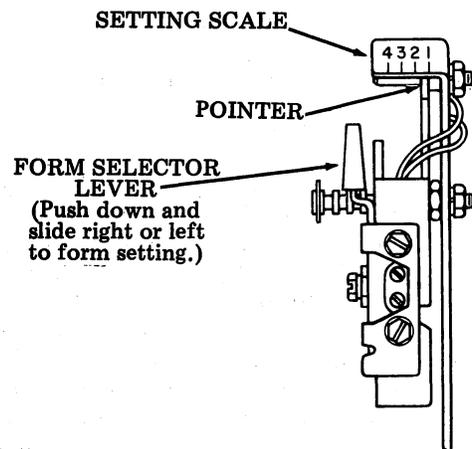

Fig. 18—Form Out Assembly (Left Side)
2.17 Ten different belts are available, see Table A. The belts are color coded to aid in identification. The form selector lever (Fig. 18) should be positioned to the proper setting for the desired form length.